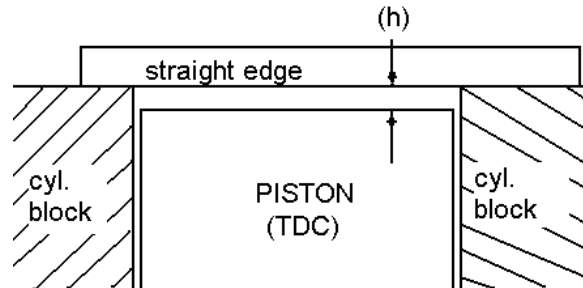

Figure 10. Cylinder Head Clearance.
- b. Place a straight edge across the piston bore and measure the clearance (h) between the straight edge and the top of the piston by using a thickness gauge. See Figure 10.